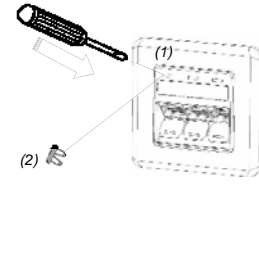

Fig. 11
Fig. 11 shows the procedure to insert an icon: with a flat object (screwdriver) open the selected icon hole (1) by punching two times and snap the icon (2) in.